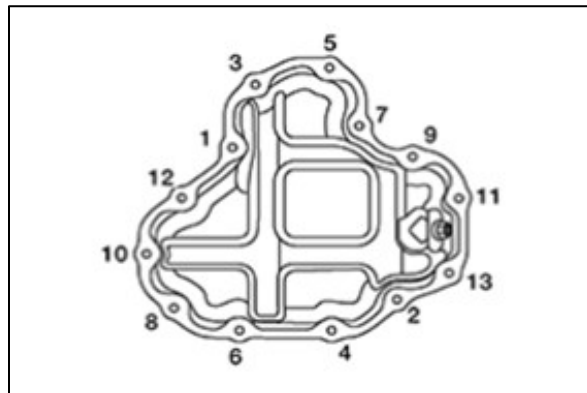

Figure 12
- Torque the lower engine oil pan bolts to specification using the sequence in Figure 12.